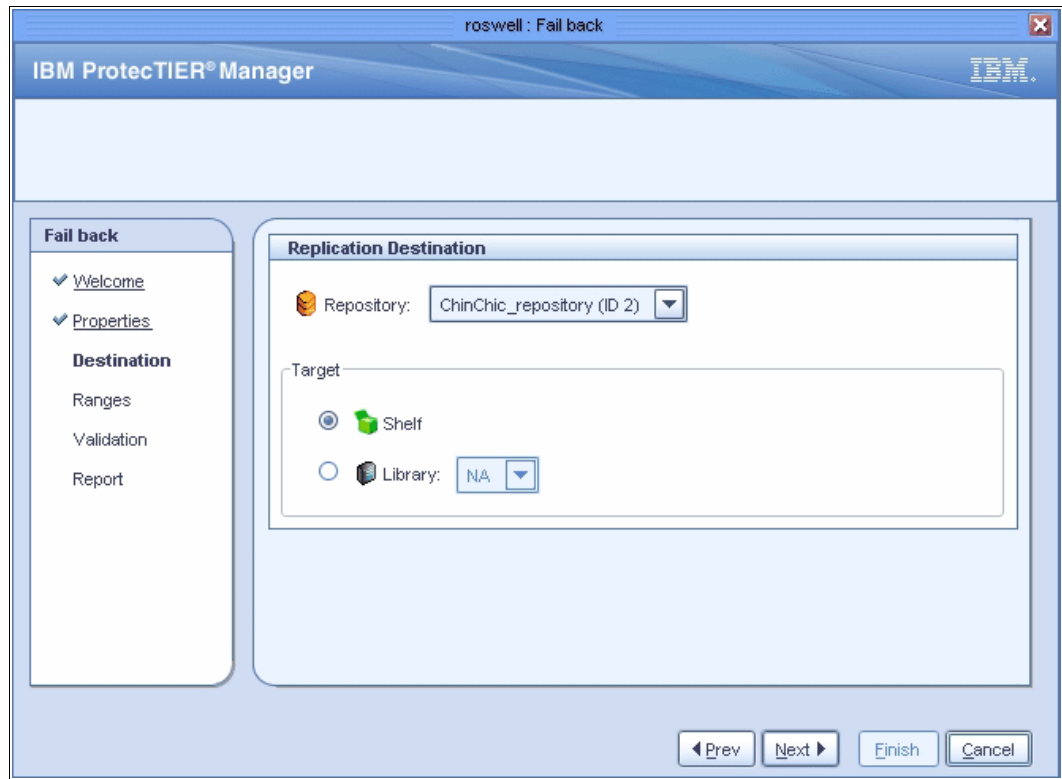

Figure 11-9 Failback destination properties window
3. Click **Next**. The replication failback destination window opens. Select the repository you want to select as destination for your failback policy (Figure 11-9).